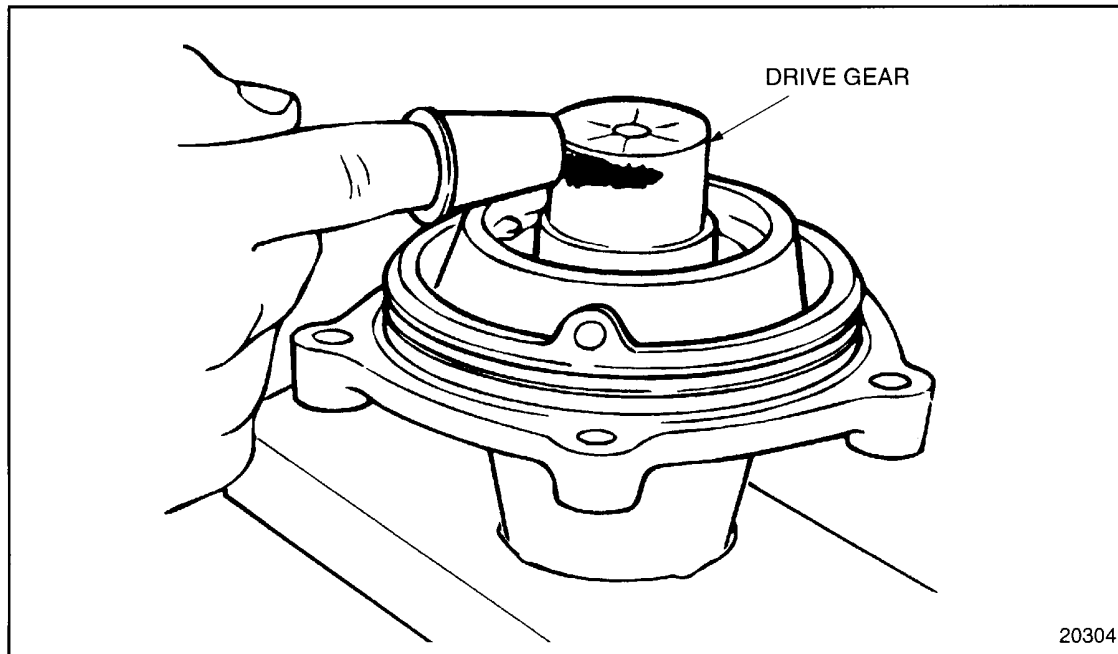

Figure 1-406 Drive Gear Installation Preparation
14. A film of lubriplate must be applied to the drive gear end of the accessory driveshaft. See Figure 1-406.